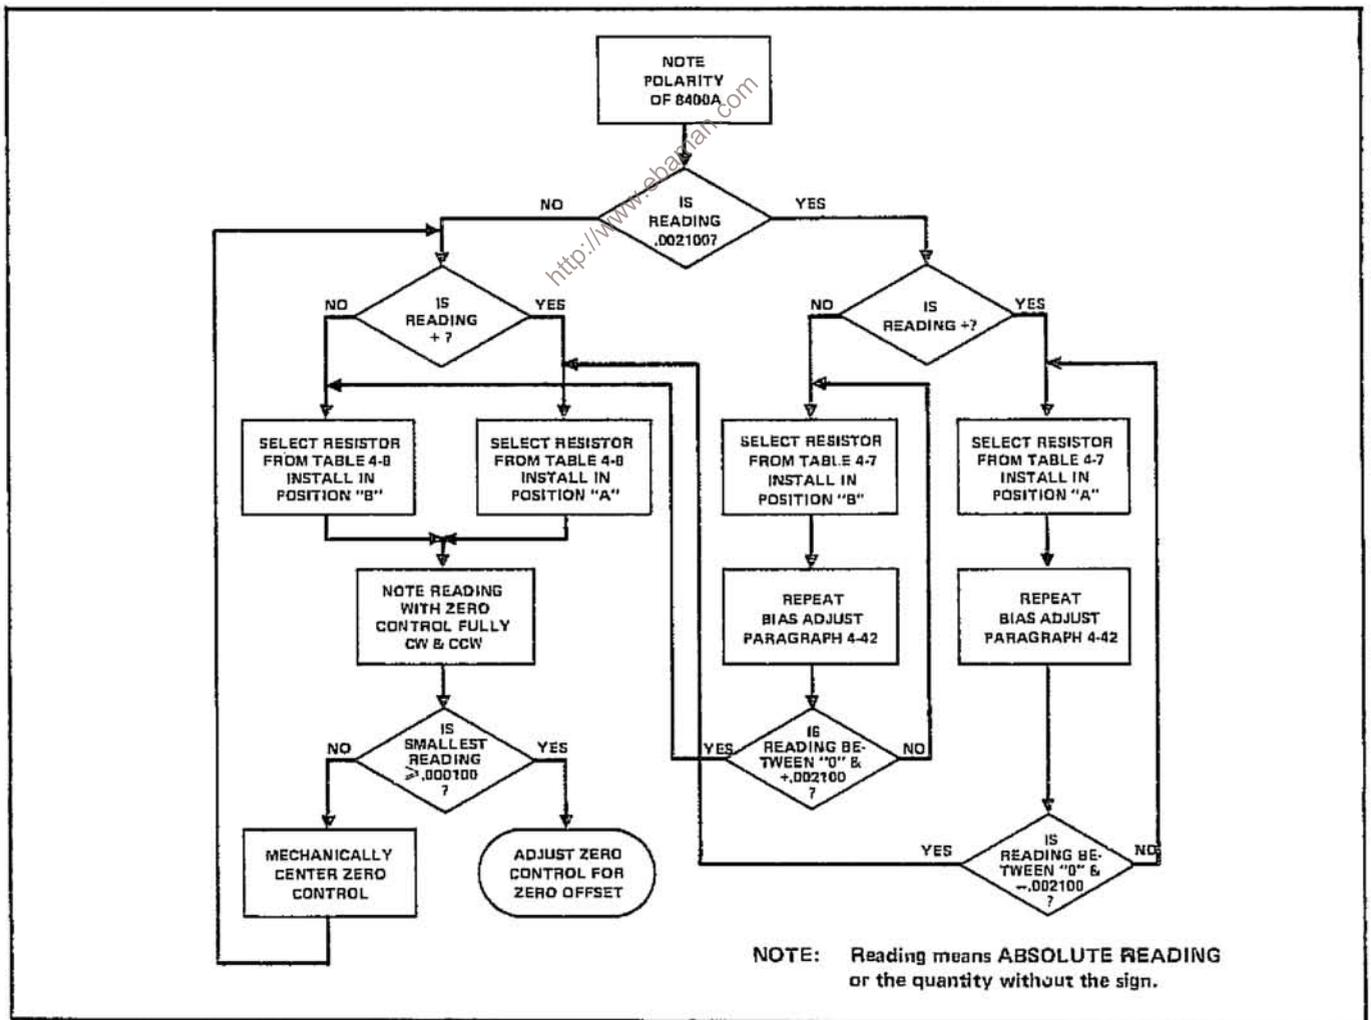

Figure 4-1. OFFSET RESISTOR SELECTION PROCEDURE
- 4-48. Offset Resistor Selection: Perform the test outlined in Figure 4-1 (Resistor Selection Procedure).**